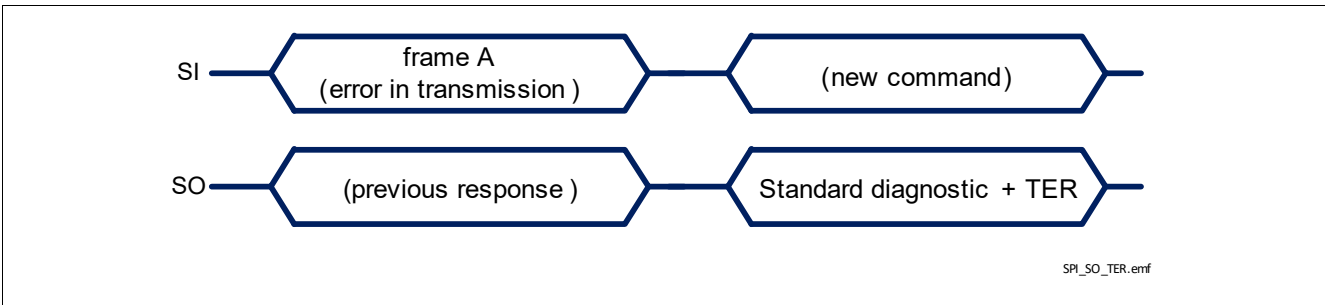

Figure 30 TLE75004-EPD response after a error in transmission
- in case an error in transmission happened during the previous frame (for instance, the clock pulses were not multiple of 8 with a minimum of 16 bits), shown in **Figure 30**